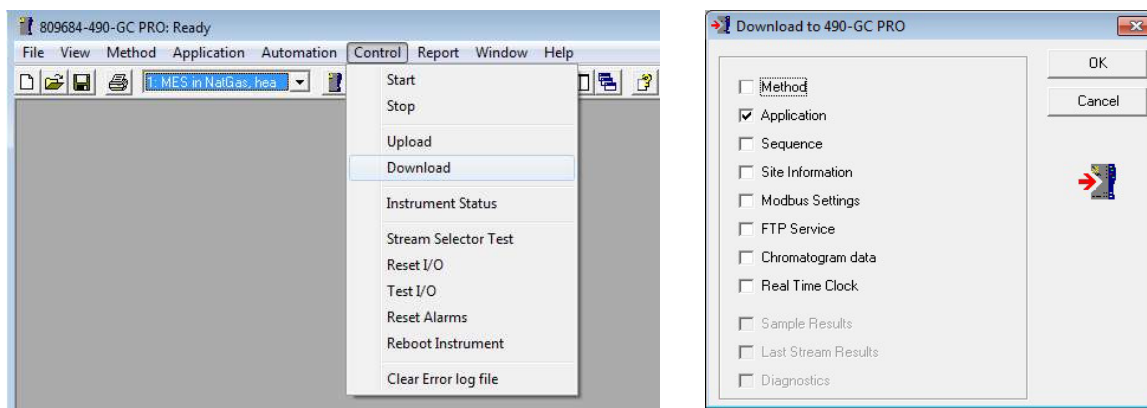

Figure 69: Download application
- Save Application and download Application to instrument, see Figure 69.